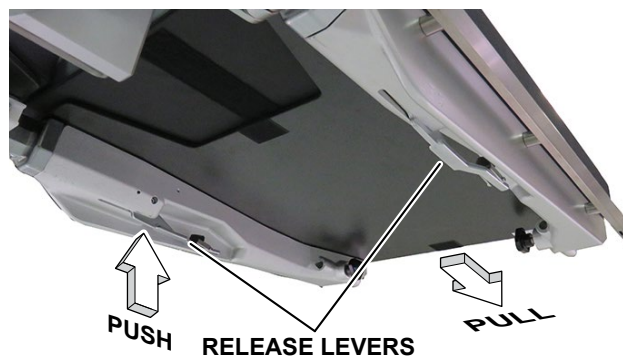

Figure 1. Existing Leg Section
3. Push up on the two release levers beneath the leg section (Figure 1) and pull the leg section off the axis pins.